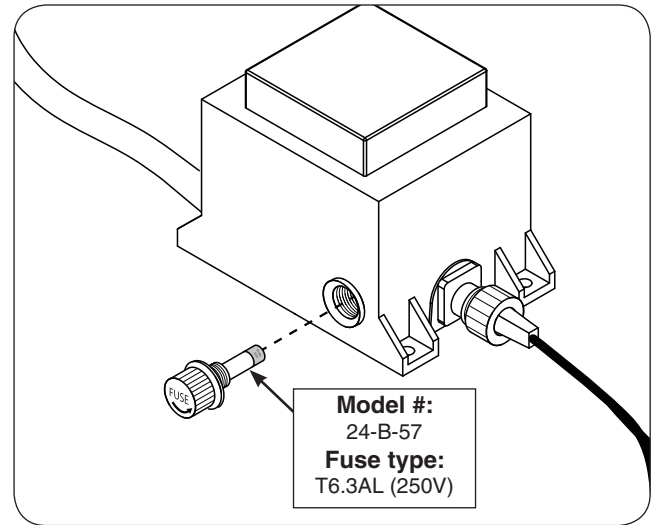

Fig. 38-1 Replace fuse
3. Locate the fuse holder on the power supply box (see Fig. 38-1).